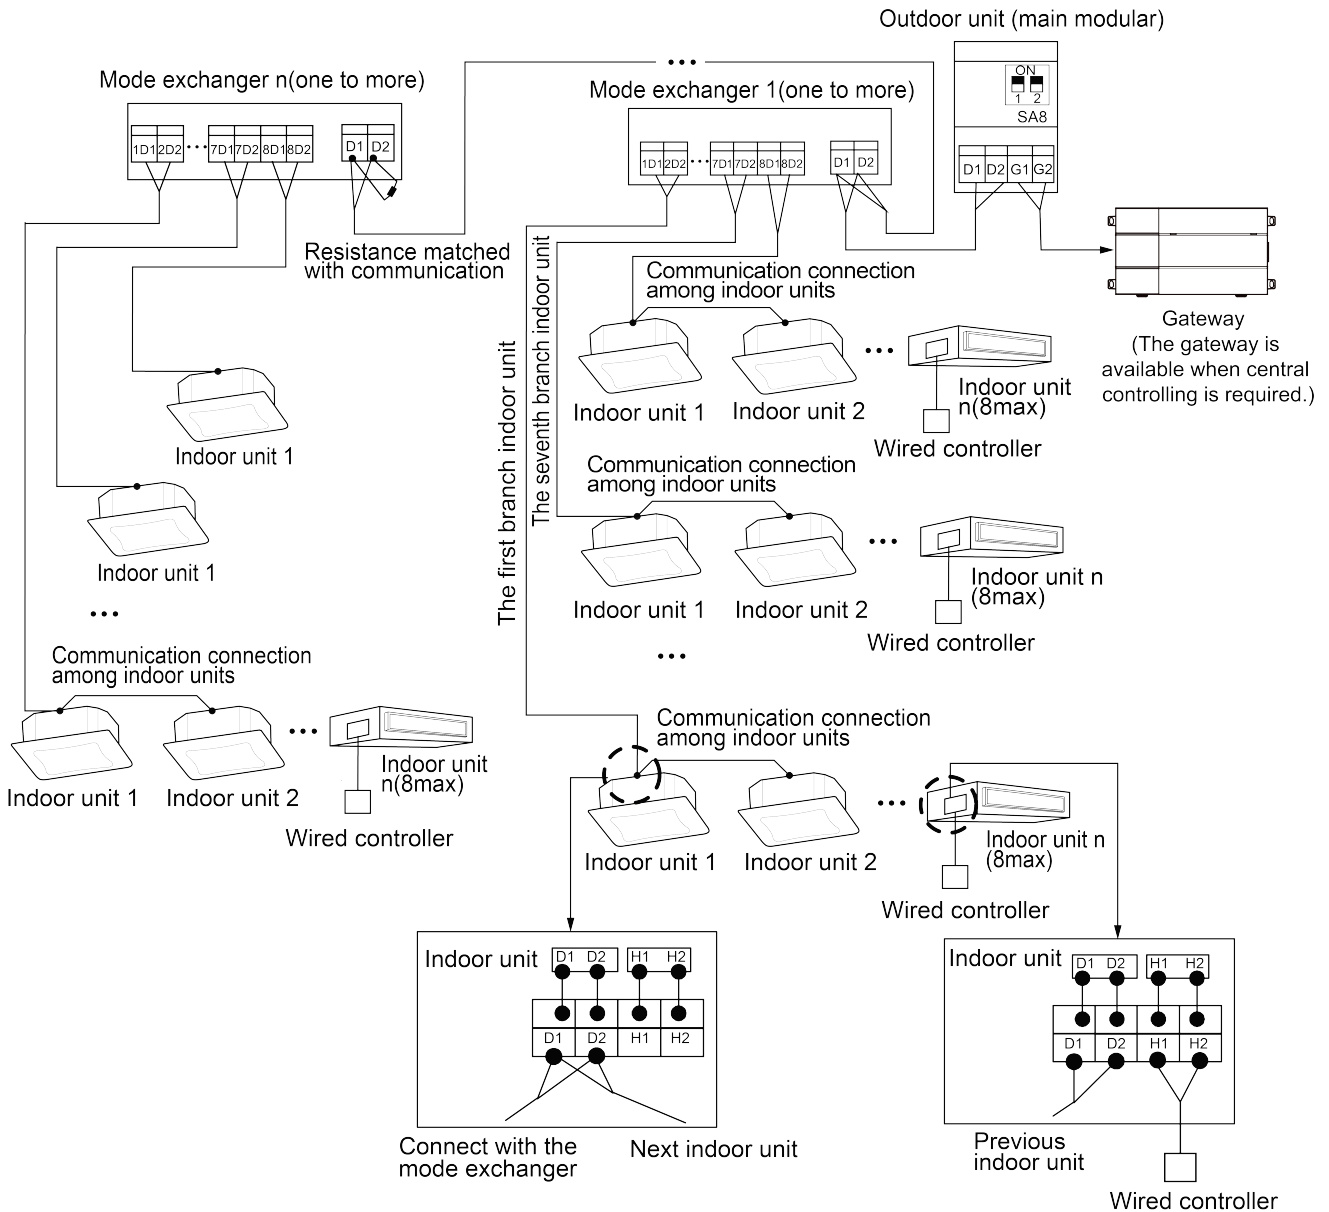

Fig.5.10
- (1) Open electric box cover of indoor unit.
- (2) Pass the communication wire through rubber ring.
- (3) Connect communication wire to wiring board OD(D1, D2) of outdoor unit of mode exchanger.
- (4) Connect communication wire lead from D1 and D2 terminal of 4-bit wiring board of indoor unit to wiring board ID1(1D1, 1D2) of indoor unit of mode exchanger; ID2(2D1, 2D2.....ID-n(nD1, nD2),  $n \leq 8$ , As shown in Fig.5.10